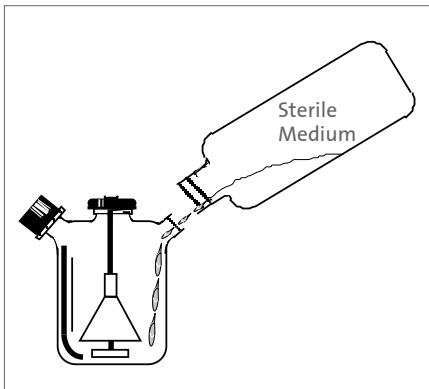

Figure 16. Small vessel being filled through a sidearm
2. Introduce medium by pouring from pre-sterilized bottles or bags containing medium by gravity-feed or peristaltic pumps (Figure 16).